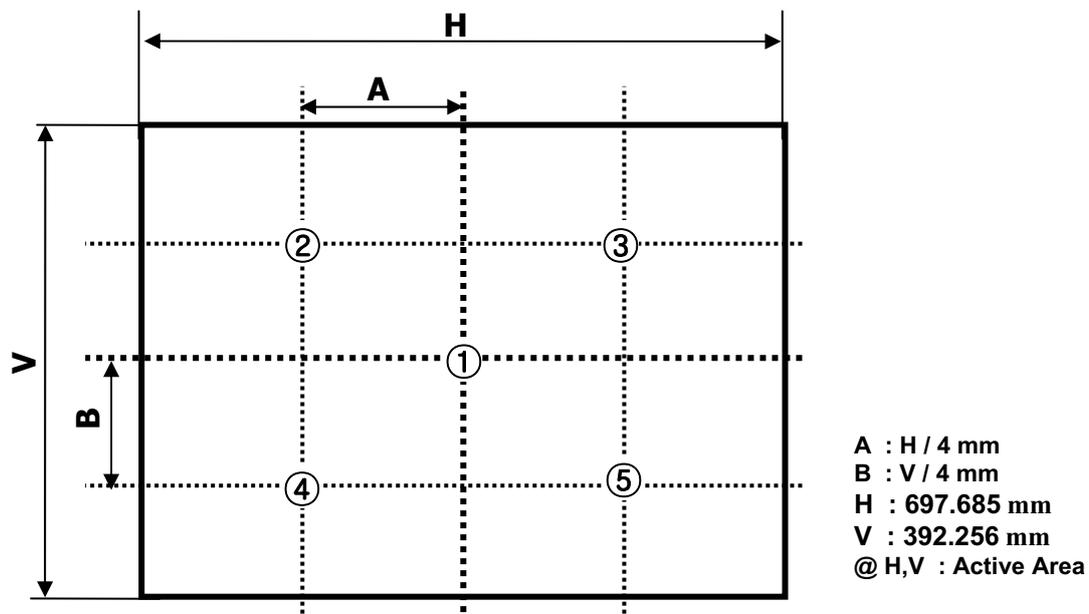

FIG. 2 The Position of Points for Luminance Measure
n = the Position number(1, 2, 3, 4, 5). For more information, see FIG 2.
2. Surface Luminance(L_{WH}) is the luminance value at center 1-point across the LCD surface 50cm from the surface with all pixels displaying white. For more information see the FIG. 2.
For more information, see the FIG. 2.